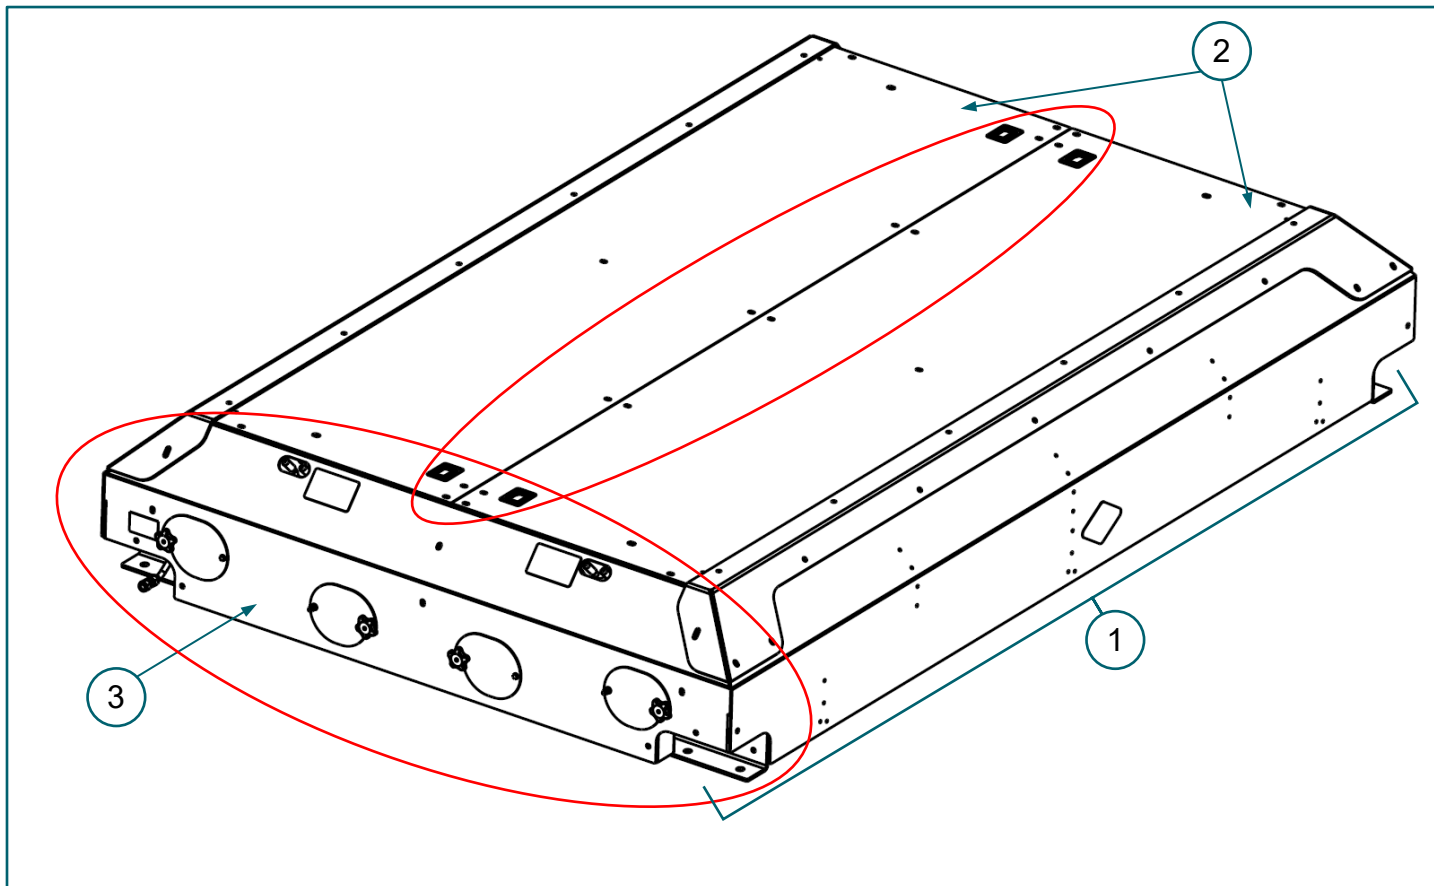

FIGURE 2. RM fuel system cover components
1. Use a battery powered impact tool and a 7/32-in hex bit to remove fuel system cover valve fasteners and set aside in a safe place. **FIGURE 2**
2. Open doors. **FIGURE 2**
3. Remove valve end panel to expose cylinder valve end plumbing. *Refer to OEM instructions.* **FIGURE 2**